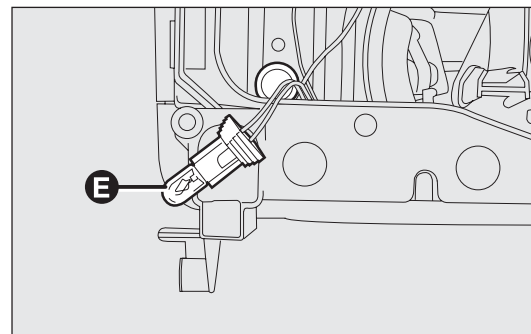

fig. 143
- ☐ remove the burnt bulb E-fig. 143 and fit the new one;